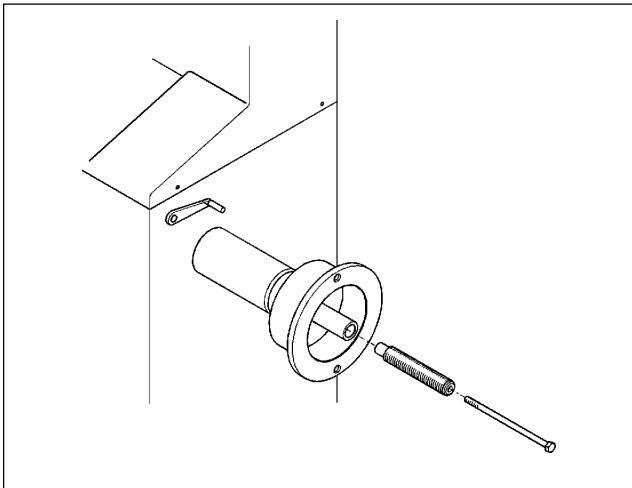

Fig.23
- A. Mount the threaded shaft onto the arbor of the balancer. Tighten firmly (Fig.23).**